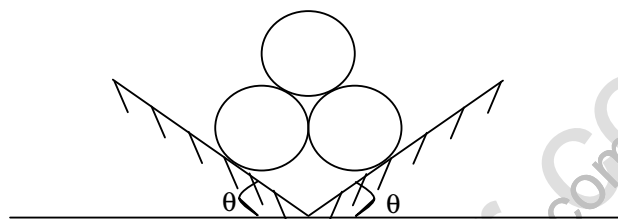

Figure 1
1. a) Three identical cylinders, each of weighing  $W$ , are stacked as shown in Figure 1, on smooth inclined surfaces, each inclined at an angle, ' $\theta$ ' with the horizontal. Determine the smallest angle ' $\theta$ ' to prevent stack from collapsing.